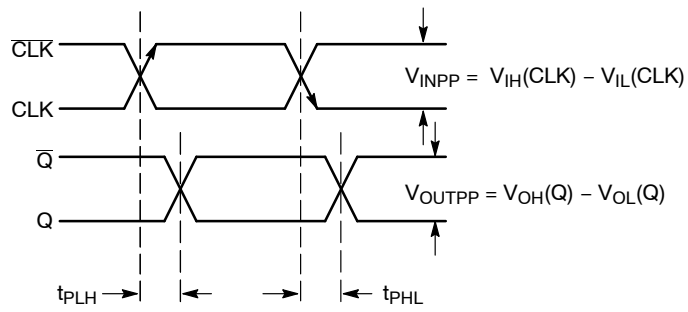

Figure 5. AC Reference Measurement
23. See Figure 5.  $t_{SKEW} = |t_{PLH} - t_{PHL}|$  for a nominal 50% Differential Clock Input Waveform.
28. See Figure 5.  $t_{SKEW} = |t_{PLH} - t_{PHL}|$  for a nominal 50% Differential Clock Input Waveform.